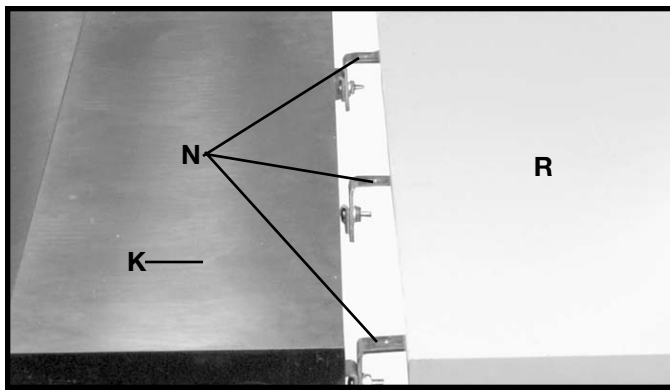
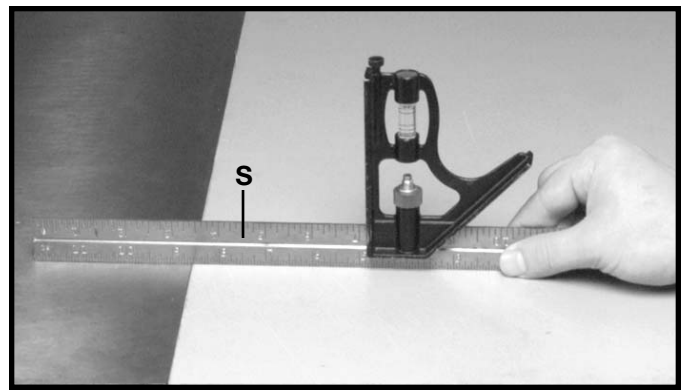
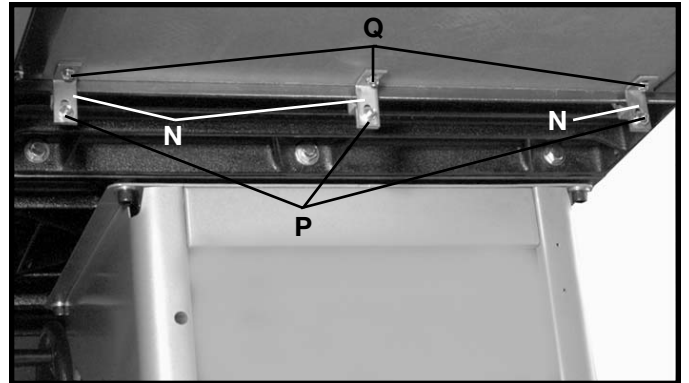
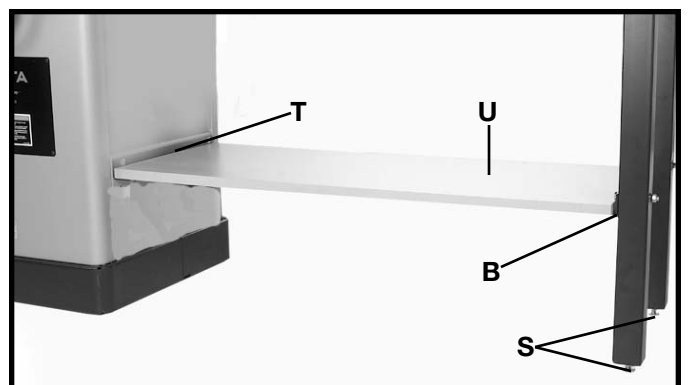

Fig. 47
Fig. 48
Fig. 49
Fig. 51
11. Position table board (R) Fig. 47, on top of angle brackets (N) as shown.
12. While holding table board (R) Fig. 47, tightly against extension wing (K), fasten table (R) to brackets (N) Fig. 47, from underneath the table using three #8 x 7/8 inch-long wood screws (Q) Fig. 49. **CAUTION: DO NOT OVERTIGHTEN TABLE MOUNTING SCREWS.** **NOTE:** Pilot holes can be drilled in the particle board using a 1/16" drill bit, drilling a 1/2" deep, to help attaching the table brackets.
13. Using a straight edge (S) Fig. 48, make certain the Unifence table surface is level with the saw table. This can be done by adjusting two leveling screws (S) Fig. 51, located on the bottom of table legs and adjusting angle brackets (N) Fig. 49, use a level, side to side and front to back to make sure the table is level. Then tighten three hex nuts (P). **IMPORTANT:** Front edge of Unifence table must be flush with or slightly behind front edge of saw table.
16. Fasten the other end of lower shelf (U) Fig. 51, to the lower shelf bracket, which was assembled to the two legs earlier using two #8 x 7/8 inch-long wood screws.
17. Place a level on the lower shelf (U) Fig. 51, and adjust the "U" bolts, that hold the shelf bracket to the table legs, until the shelf is level.